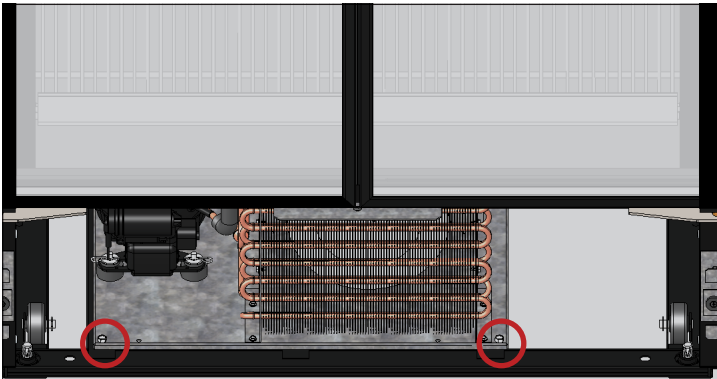

Fig. 5. Remove condenser base bolts.
5. Remove the condenser base bolts. See fig. 5.